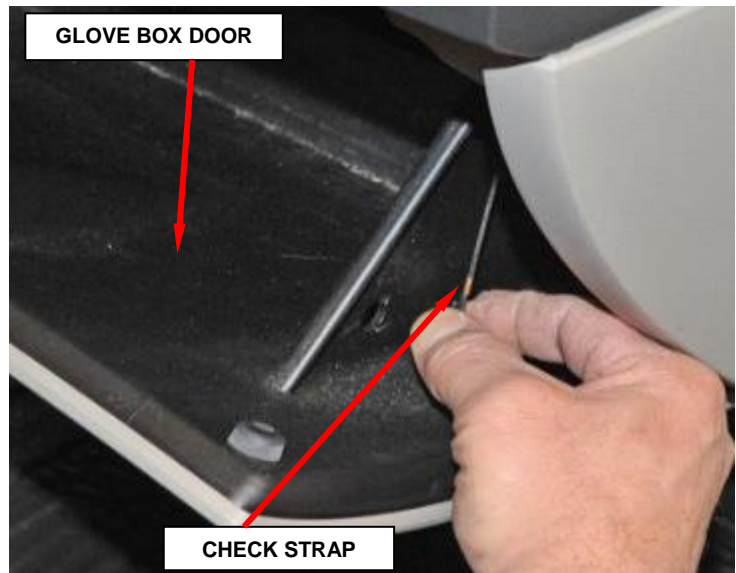

Figure 51 – Check Strap
- a. Remove the check strap from the right side of the glove box (Figure 51).